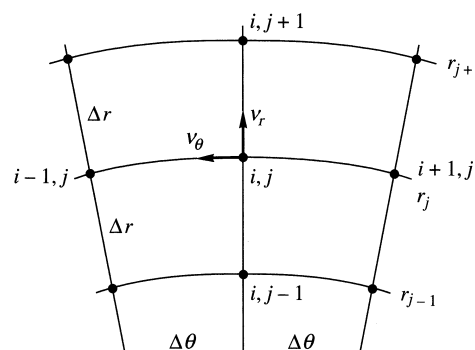

Fig. P8.106
**8.106** Laplace’s equation in polar coordinates, Eq. (8.11), is complicated by the variable radius  $r$ . Consider the finite-difference mesh in Fig. P8.106, with nodes  $(i, j)$  at equally spaced  $\Delta \theta$  and  $\Delta r$ . Derive a finite-difference model for Eq. (8.11) similar to our cartesian expression in Eq. (8.109).